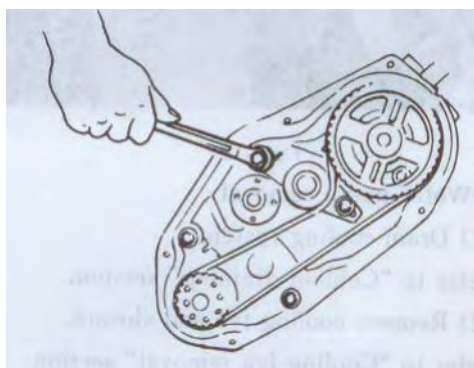

FIG.6-16 (see fig.7-17 of service manual for HFJ6351B)
(7) Loosen tensioner screw (FIG.6-16)